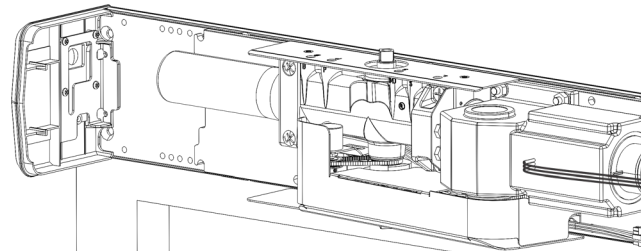

Figure 20
- Using previously prepared holes in door, install two (2) 1/4-20 x 1-5/8" screws through shoe and into sex bolts. (Figure 20)